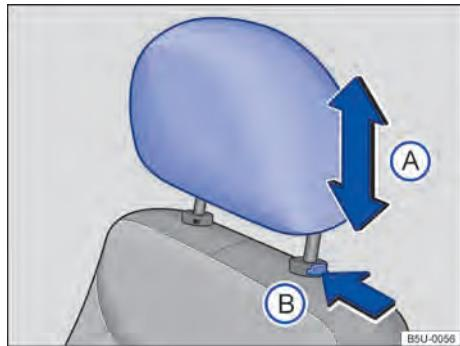
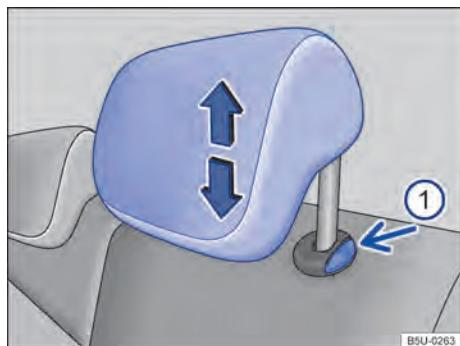

Fig. 58 Front head restraint: adjust, remove and install.
Fig. 59 Rear head restraint: adjust, remove and install.
- Push the head rest up or down in the direction of the arrow → **Fig. 58 A** → **⚠** in *Introduction* on page 61.
- Move the headrest up or down in the direction of the arrow with the button → **Fig. 59 1** held down → **⚠** in *Introduction* on page 61.
- Press the button → **Fig. 58 A** or → **Fig. 59 1** in the direction of the arrow. Remove the head rest while pressing the button.
- Push the head restraint all the way down with button → **Fig. 58 A** pressed.
- Press and hold → **Fig. 59 1** to push the head rest downwards.